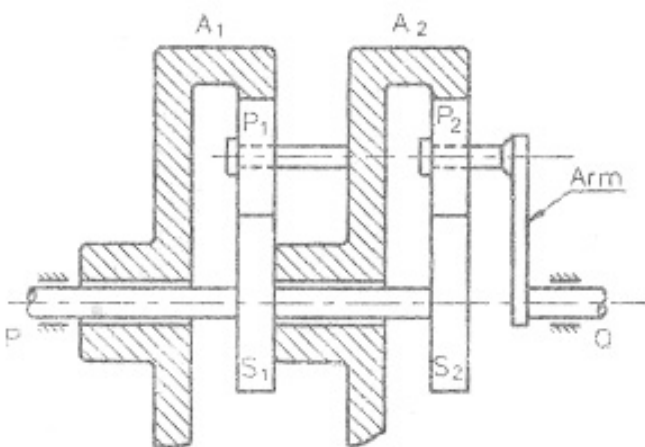

Fig. 1
b) A two stage epicyclic gear train is shown in Fig. 1. The input shaft P is connected to sun wheels  $S_1$  (40 teeth) and  $S_2$  (20 teeth), and the output shaft Q attached to carrier for  $P_2$ .  $A_1$  has 80 teeth and  $A_2$  which forms the carrier for  $P_1$  has 100 teeth. Find the gear ratio when